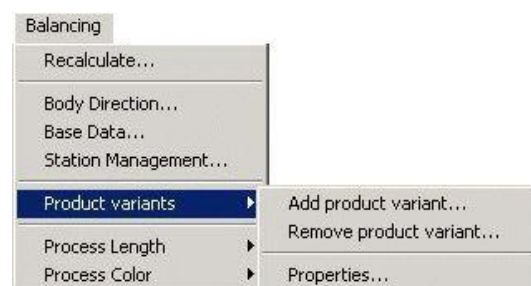
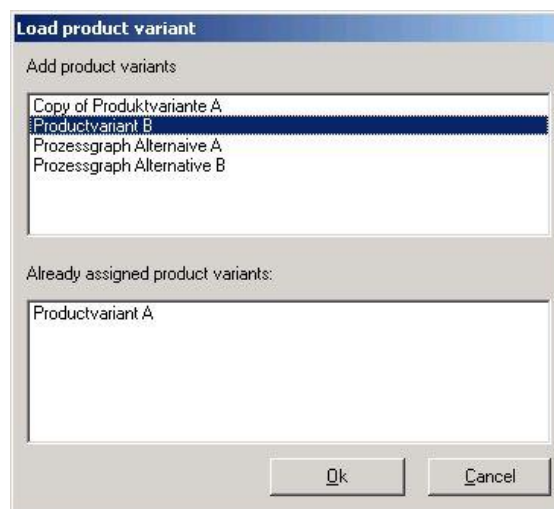

Figure 215: Product Variants Menu
Figure 217: Add Product Variants Dialog
- 1) In the Product variant menu select the menu item **Add product variants** in order to add variants. The process graphs of the possible product variants are displayed in the upper window of the dialog. *Please refer to the Figure 215 and Figure 217.*